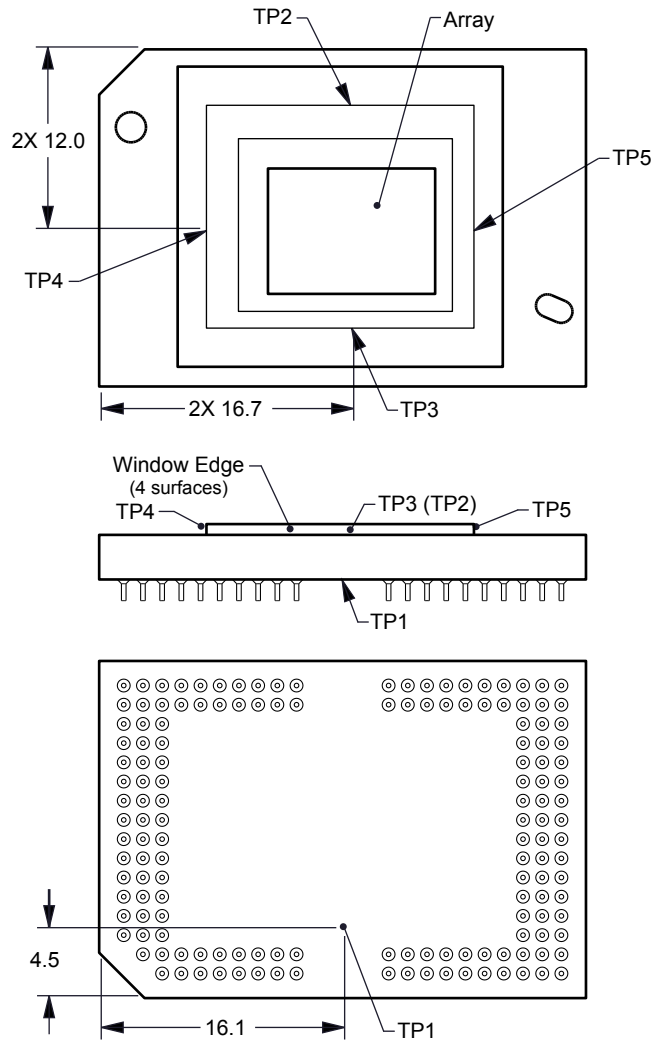

Figure 7-1. Thermal Test Point Location
Micromirror array temperature cannot be measured directly, therefore it must be computed analytically from measurement points on the outside of the package, the package thermal resistance, the electrical power, and the illumination heat load. The relationship between array temperature and the reference ceramic temperature (thermal test TP1 in Figure 7-1) is provided by the following equations:
- T_{CERAMIC} = Measured ceramic temperature (°C), TP1 location in Figure 7-1